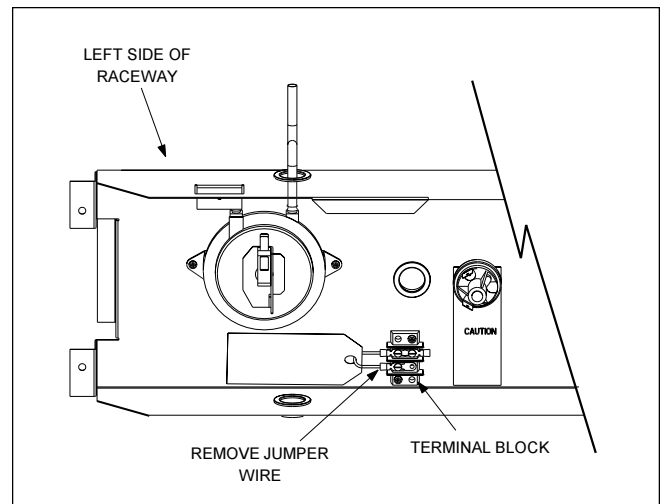

Figure 19. Remove Jumper from Terminal Block
To install a time clock auxiliary switch into the heater circuit, follow these instructions (see Figure 19):
2. Remove the factory installed jumper wire and tag from the terminal strip (see Figure 19).